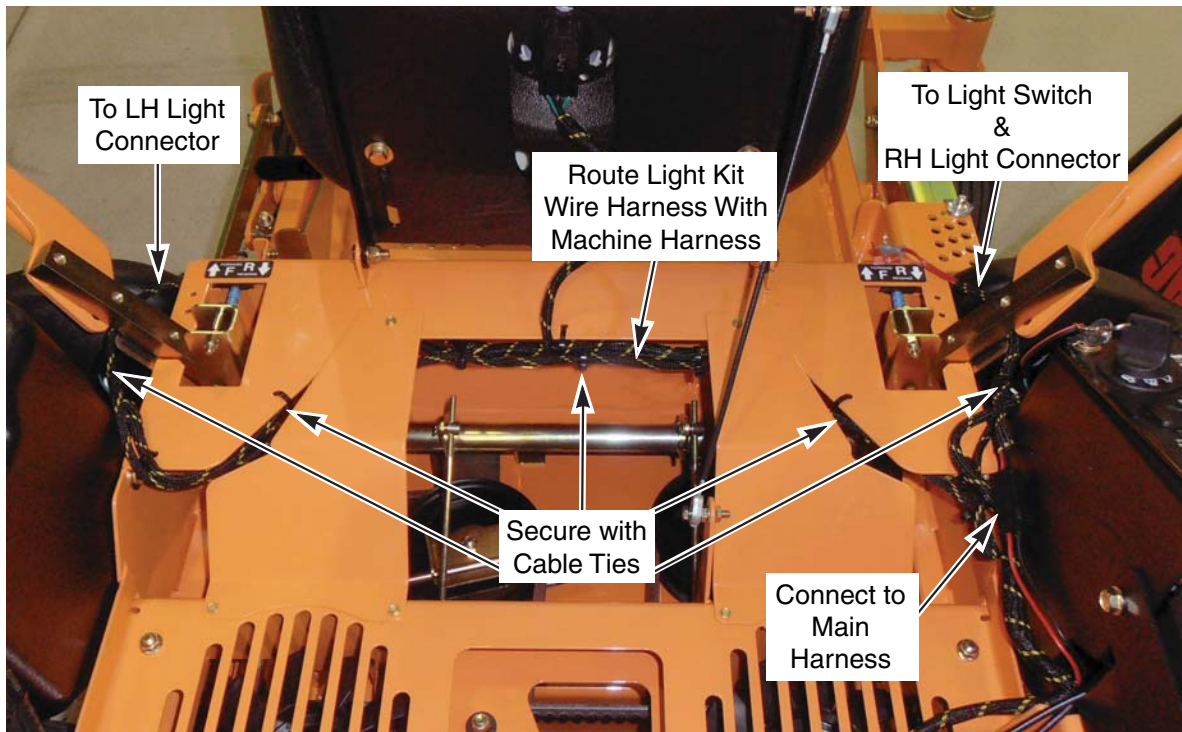

Figure 5. Route & Secure Wire Harness
6. Route the wire harness and secure using the cable ties provided with this kit as shown. See Figure 5.
9. Connect the light kit wire harness to the machine main wire harness. See Figure 5.